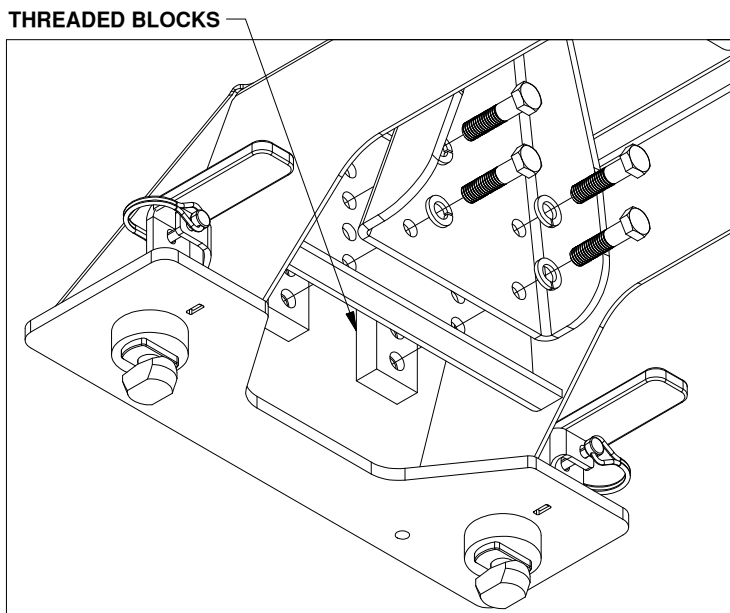

FIGURE A2: Passenger pivot arm mounting location.
2. **Secure arms.** Locate both pivot arms, the four threaded blocks, eight 1/2" cap screws, and eight 1/2" split lock washers. Place the lock washers over the cap screws. Align the flat side of the pivot arm flat against the bolt plate and install four 1/2" cap screws through the holes on the arm, holding the arm in place, as shown in Figure A2. Locate the threaded blocks. Note that the sides of the block have threaded holes on one side and smooth bored holes on the other side. When installing the threaded blocks it is critical that the side with the smooth holes is flat against the bolt plate when installed. It is also critical that each of the five holes in the threaded block match up with the five vertical holes in the bolt plate. Pass the threaded block under the base and align the block with each set of screws and start each screw, as shown in Figure A2. After all the screws are started through the arms, torque each bolt to 110 ft-lbs.